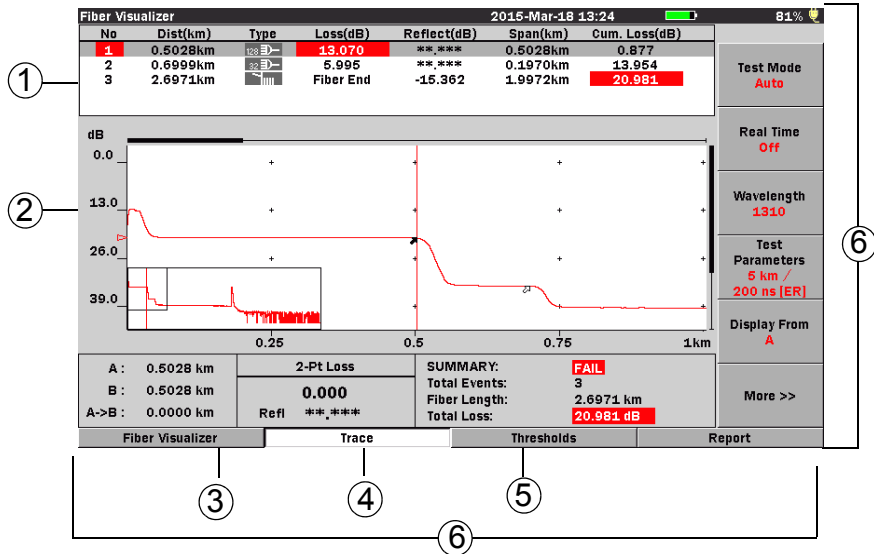

Figure 5-11: Trace screen
The Cursor Distance information (see item 3 in Figure 5-11 on page 5-21) displays the following:
The Loss Mode, Measurement, and Reflectance area (see item 4 in Figure 5-11 on page 5-21) displays the following:
The Fiber Test Parameters area (see item 5 in Figure 5-11 on page 5-21) displays the Wavelength (WL), Distance Range (DR), Pulsewidth (PW), Index of Refraction (IOR), Resolution (RES), and Averaging mode (AVG) set for the current test. The **Test Progress** bar indicates the current averaging status. See item 5 in Figure 4-10 on page 4-31.